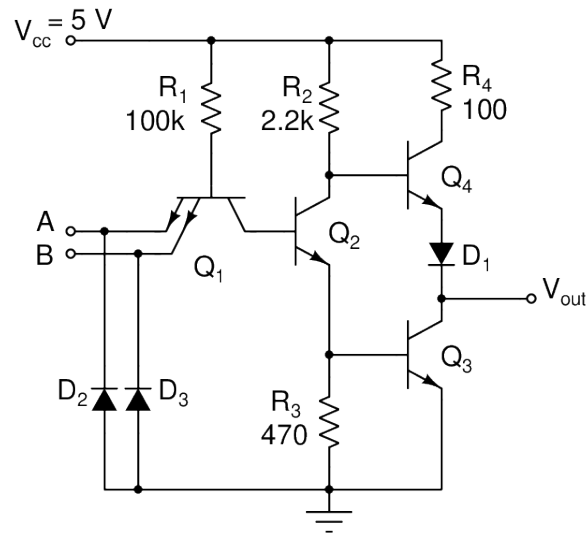

Fig. 4
4 A design of a transistor-transistor logic (TTL) 2-input NAND gate is shown in Fig. 4. The supply voltage  $V_{CC}$  is 5 V and all resistance values are provided in Ohm ( $\Omega$ ). Assume that the diode on-state voltage is 0.7 V, the transistor on-state base-emitter voltage and the saturated transistor collector-emitter voltage are 0.7 V and 0.2 V, respectively. The forward gain  $\beta_F$  is 50, and the reverse gain  $\beta_R$  is 0.1.
- (f) What is a Schottky transistor? Discuss how Schottky transistors can improve the performance of the TTL gate like the one in Fig. 4. [20%]